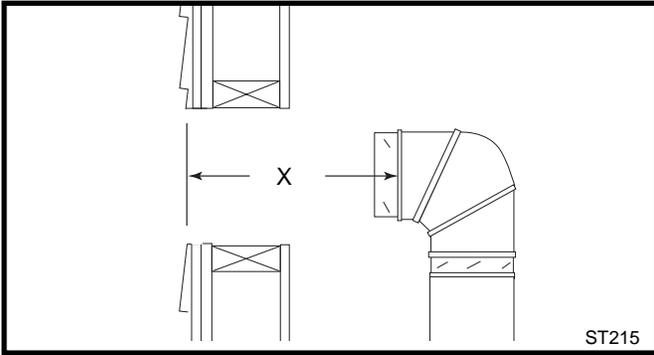

Fig. 34 Measure the horizontal length.
7. Measure, and cut if necessary, the appropriate length of pipe section needed to make the connection through the wall. Include a 2" overlap; i.e. from the elbow to the outside wall face, about 2" or the distance required if installing a second 90° elbow. (Fig. 34)